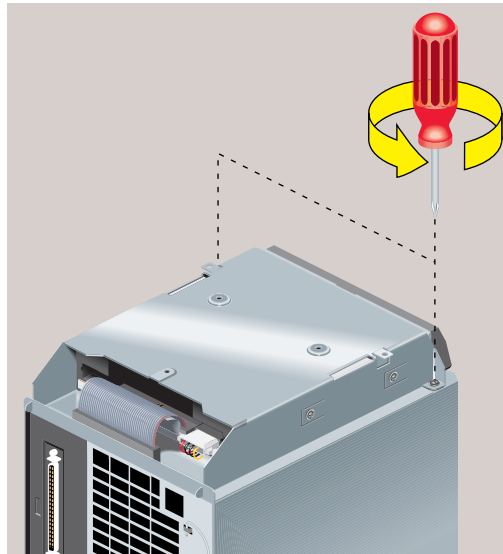

Figure 5-50 Removing the Screws From the CD-ROM Drive
8. Use a Phillips screwdriver to remove the two screws that secure the CD-ROM drive (Figure 5-50).